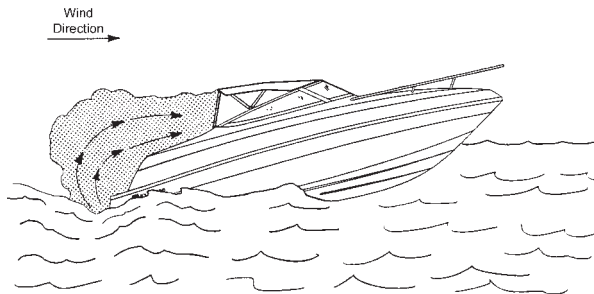

Figure B-13: Operating at Slow Speed with Following Wind
5. Operating a boat at slow speeds with a following wind should be avoided. Consider changing direction, adjusting speed, or both. See Figures B-13.